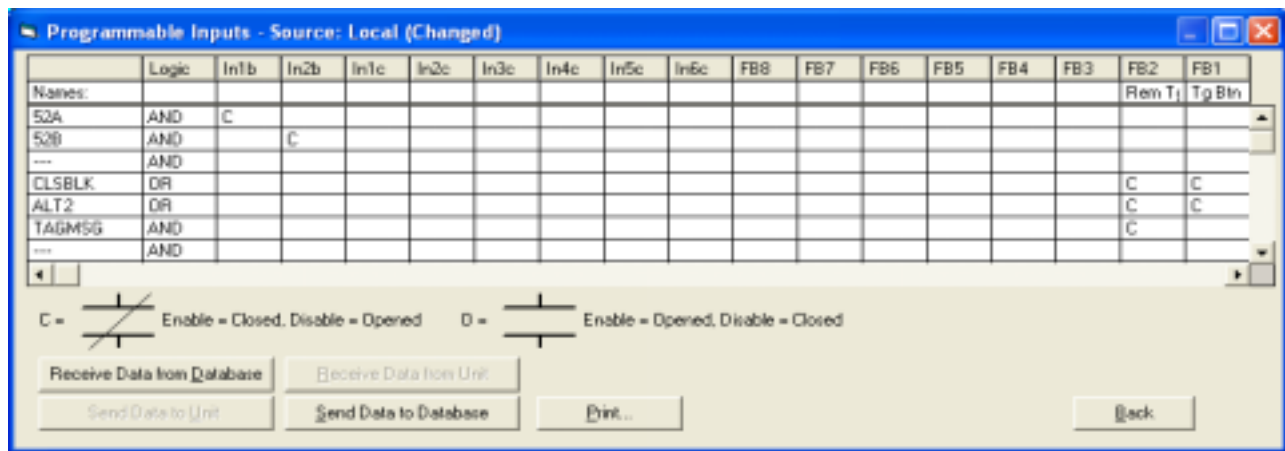

Figure 3. Programmable Inputs
3. Program the programmable inputs. The **FB1 input** contact directly follows the programmable **FB1 output** contact, so when the output contact for **FB1** closes, the programmable input contact for **FB1** closes. (See Figure 3)